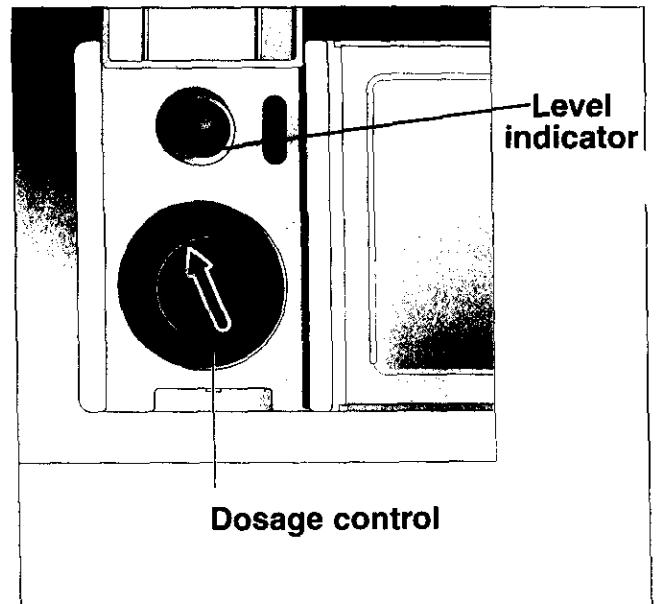

Figure 15.
The rinse agent reservoir of the Bosch dishwasher is provided with a regulator calibrated from 1 to 6. See Figure 15. This regulator controls the amount of rinse agent dispensed. The dishwasher leaves the factory preset to 3½. This has been chosen as the average setting, however:
- Turn the setting indicator to the desired setting. See Figure 15.